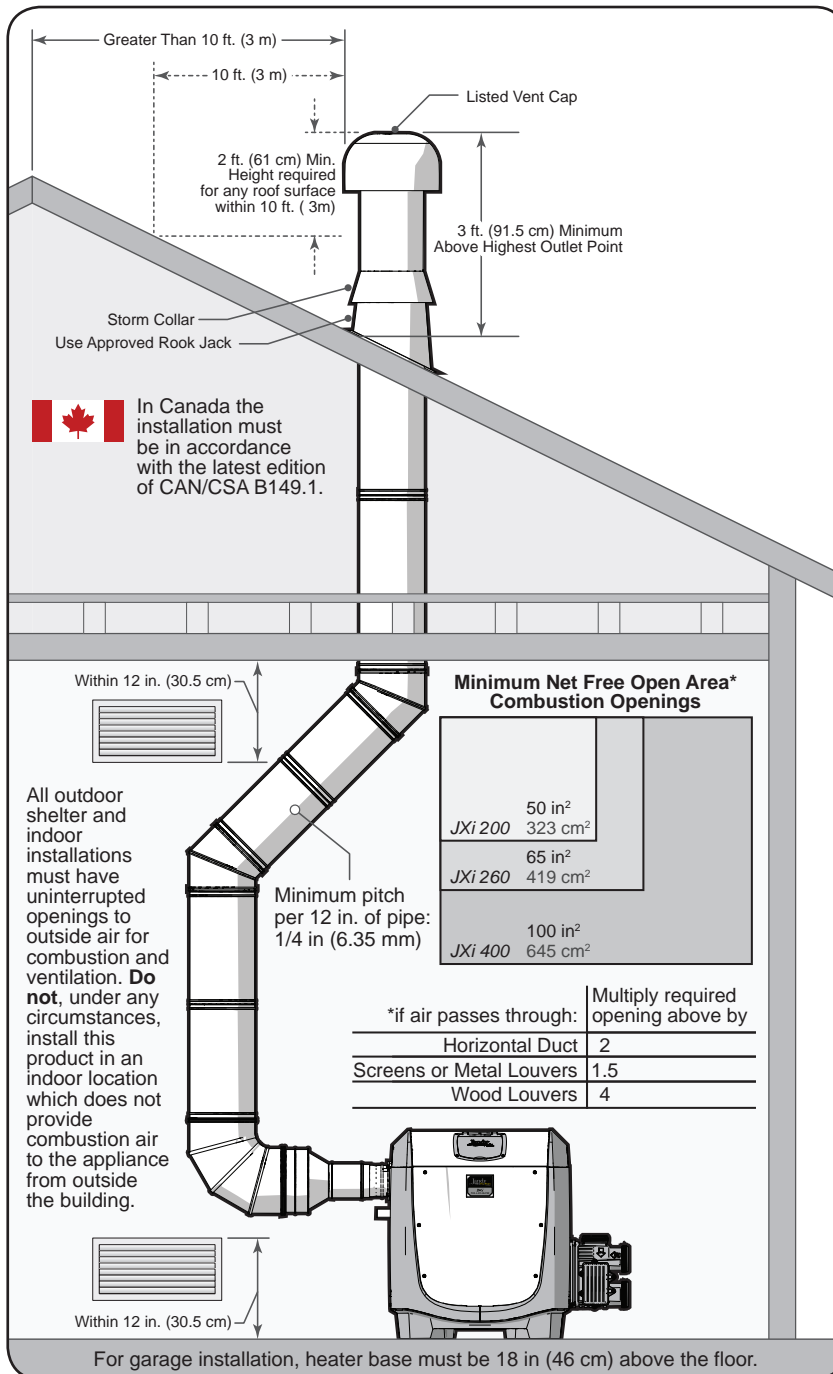

Figure 4. Indoor and Outdoor Shelter Installation
When combustion air is supplied directly through an outside wall, each opening should have a minimum free area of 1 square inch per 4,000 BTU/h (1.2 kW) input of the total input rating of all appliances in the enclosed area. If combustion air must pass through horizontal ducts, each opening should have a minimum free area of 1 square inch per 2,000 BTU/h (1.2 kW) input of the total input rating of all appliances in the enclosed area. Details can be found in *Figure 4*.
The “Minimum Net Free Open Area” information from *Figure 4* is not applicable in installations where exhaust fans or blowers of any type are used. Any equipment which exhausts air from the room where the heater is installed can deplete the combustion air supply or reverse the natural draft action of the venting system. This could cause flue products to accumulate in the room. Additional air must be supplied to compensate for such exhaust. Consult a professional engineer to ensure that installations where exhaust fans or blowers are used are designed and installed in accordance with all applicable local and national installation codes.
- Horizontal runs must be sloped upwards away from the heater to a vent terminal at a minimum of 1/4" per horizontal foot (2 cm/m). See *Figure 4*.